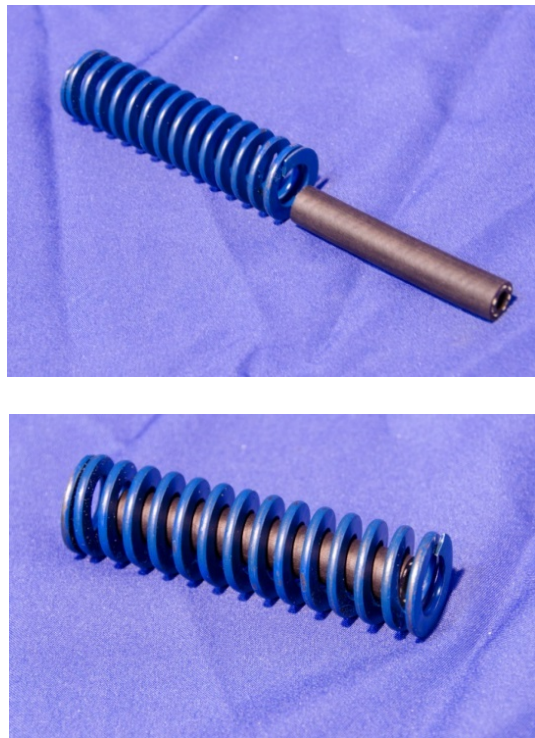

Figure 12-23. Assemble compression spring with elastomer spring element
- 12.2.2.11 Insert the Elastomeric Spring Element (472-7357) into the Compression Spring (9000540) (24 N/mm) (Figure 12-23).